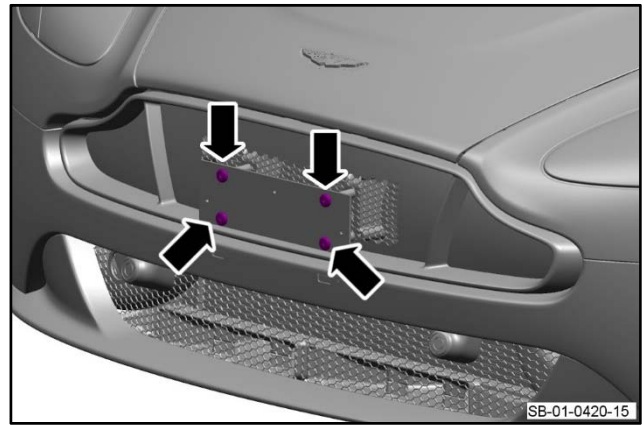

Figure 15
6. Install and torque the four screws that attach the bolster plate to the bolster studs to 5 Nm (refer to Figure 15).